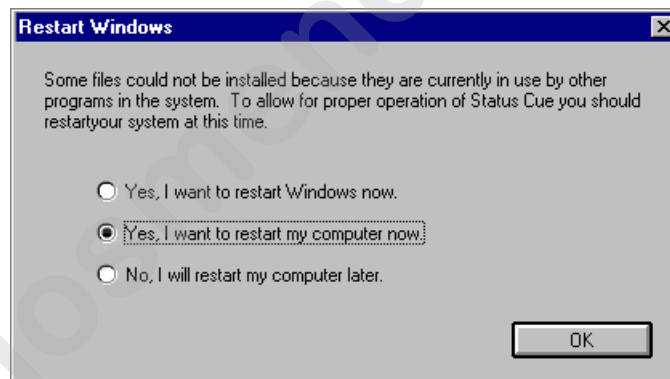

Figure 1.36. Please Exit Windows and Restart Dialogue Box
4. If there are no errors uploading to the LinkCard, *Status Cue* will prompt you to exit Windows and restart the system. Refer to Figure 1.36.